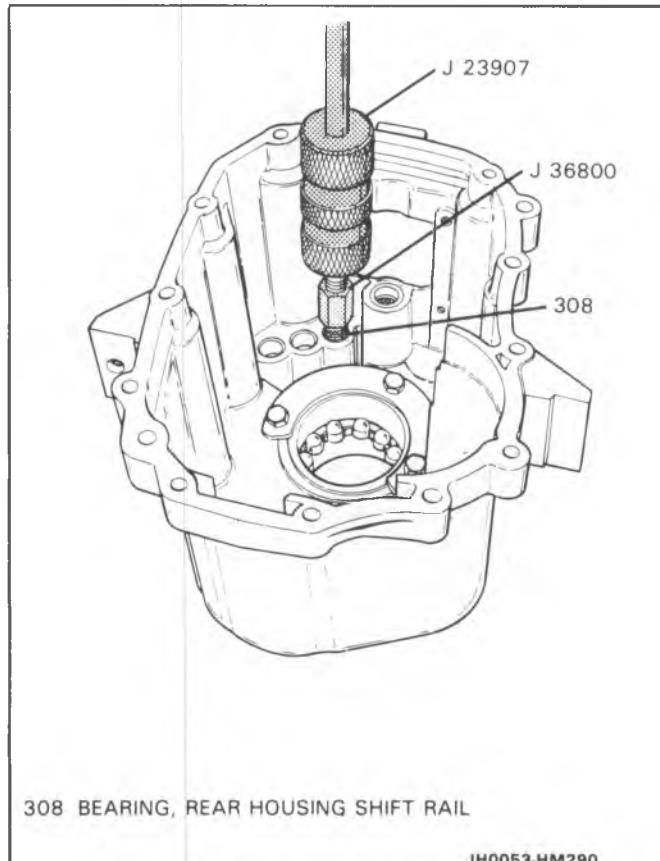

Figure 57 Removing Shift Rail Bearing
1. Rear housing shift rail bearings (308) (three), using J 36800 and J 23907 (Figure 57).